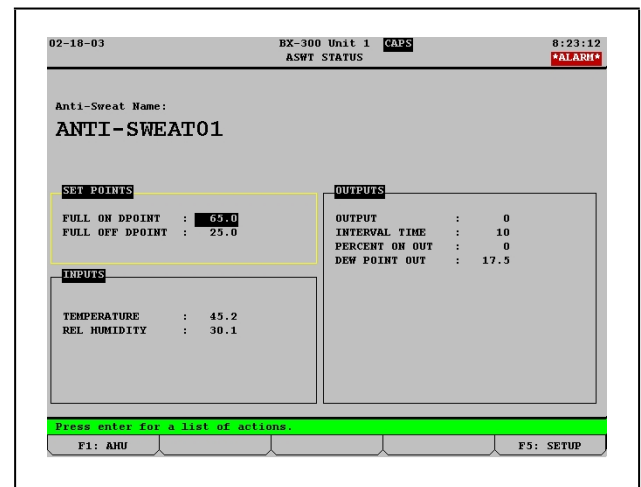

Figure 4-3 - Anti-Sweat Status Screen
3. If you have created more than one application, the Anti-sweat Summary screen will appear. From the Summary screen, highlight the first application to configure by using the arrow keys. Press Enter to go to the Anti-sweat Status screen (Figure 4-3). If you have set up only one application, you will go directly to the Anti-sweat Status screen.